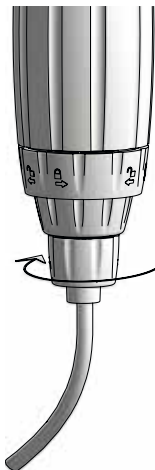

Fig. 19
- Unscrew the nut at the bottom of the dosing part (**Fig. 19**)
- Unscrew the suction valve locking nut (Fig.19)